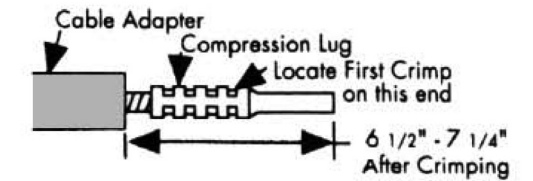

Fig. 8 - Final Crimp Dimensions
C. Wipe off excess inhibitor at the base of the connector and smooth any sharp edges on crimps of lug. Measure check dimension after crimping to verify it is between 6-1/2" to 7-1/4". (See Figure 8.)